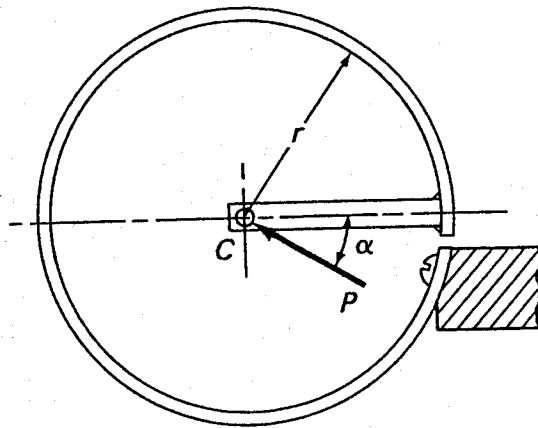

Figure 5
5. A coil spring shown in Figure 5 has a rigid rod brazed to it. A force  $P$  is applied to the rod at point  $C$  coinciding with the centre of the coil at an angle  $\alpha$ . Consider that the coil extends for  $360^\circ$ . Determine the deflection of the point  $C$  in the direction of the force and perpendicular to the direction of the force for the following cases :